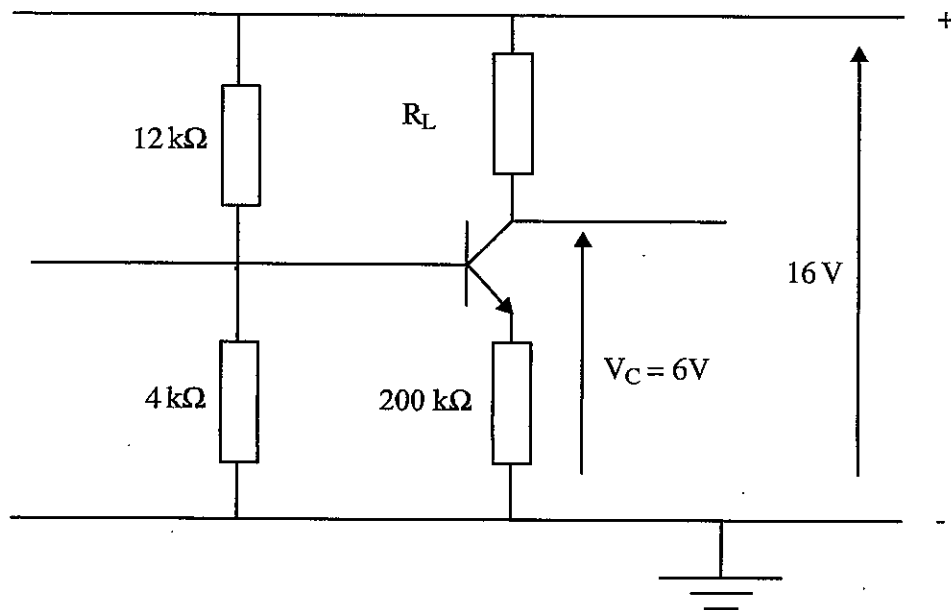

Fig Q3
3. The p.d. between base and emitter for the transistor shown in Fig Q3 is 0.3V and the steady state output voltage  $V_C$  is 6V.